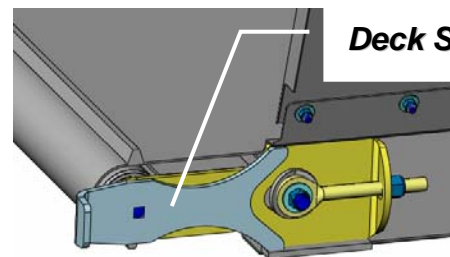

Figure 90.11
4. Install the 14" back panel to the 14" extension deck (figure 90.11)